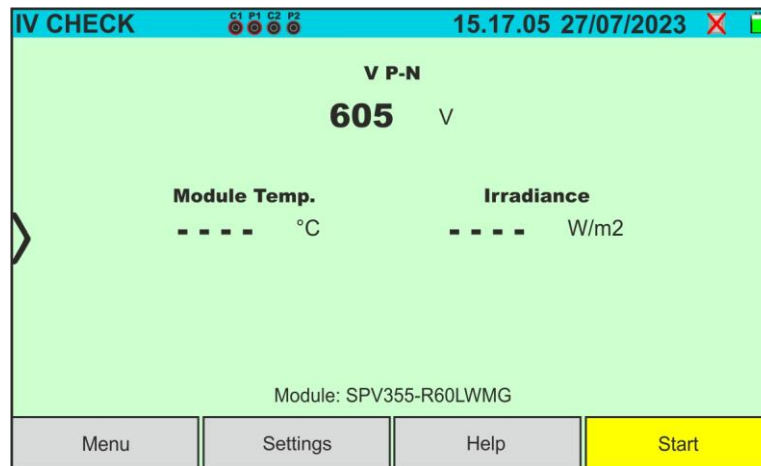

Fig. 47: Initial IVCK test screen without remote unit on Monofacial modules
4. In the case of **Monofacial** modules, the Fig. 47 screen is present on the display. The following parameters are shown: